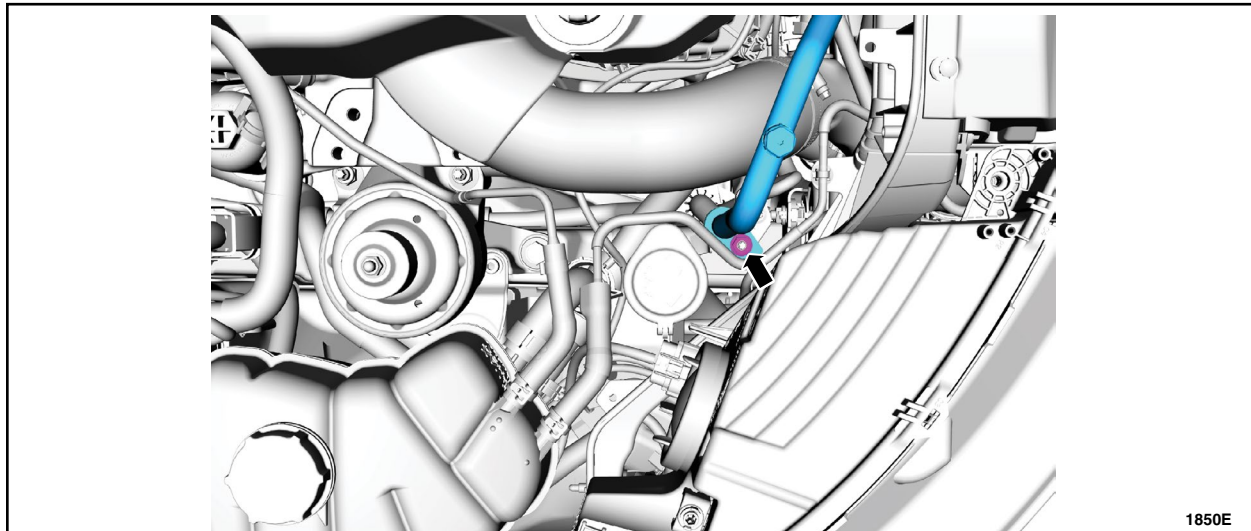

FIGURE 6
3. Disconnect the A/C compressor inlet line nut, disconnect the fitting and position aside the A/C compressor inlet line to gain access to the battery positive cable nut on the generator. See Figure 6.